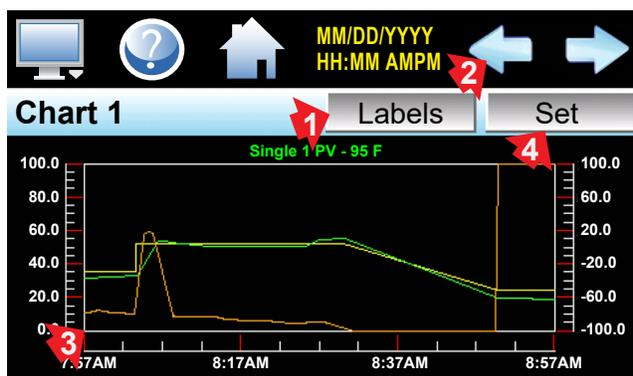

Figure 30. Chart Screen
- At Chart screen, touch (1)Labels to verify color and values (2)Scroll arrows cycle through each chart. Touch and draw a box around an area and pull back to zoom in. Touch (3)X or Y axis to return to previous setting. Zoom normal for full display. Touch (4)Set to open setup (Figure 30).